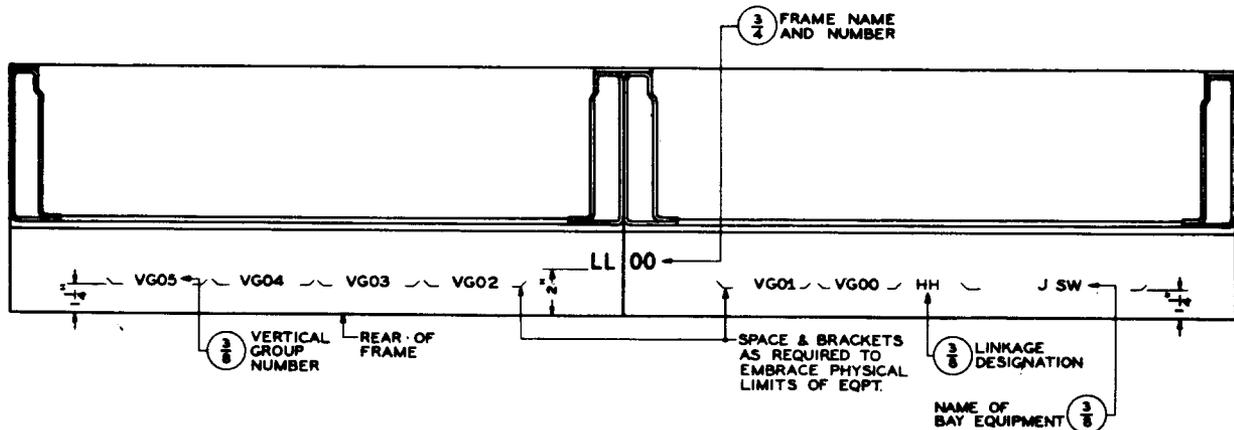

Fig. 16 - Plan View, Rear of Double-bay, Box-type Basic Frame Base
- On the rear, on the top surface of the frame base with brackets, as required, to embrace the physical limits of equipment and on the fixed rear cover (when furnished), as shown in Fig. 16 and 13, respectively.